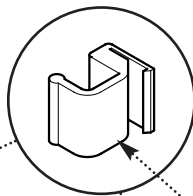

Fig. 75
5. Undo the screws and remove the appliance upper cross member (Fig. 76). Slide the expansion vessel out of the retaining clips (Fig. 75).